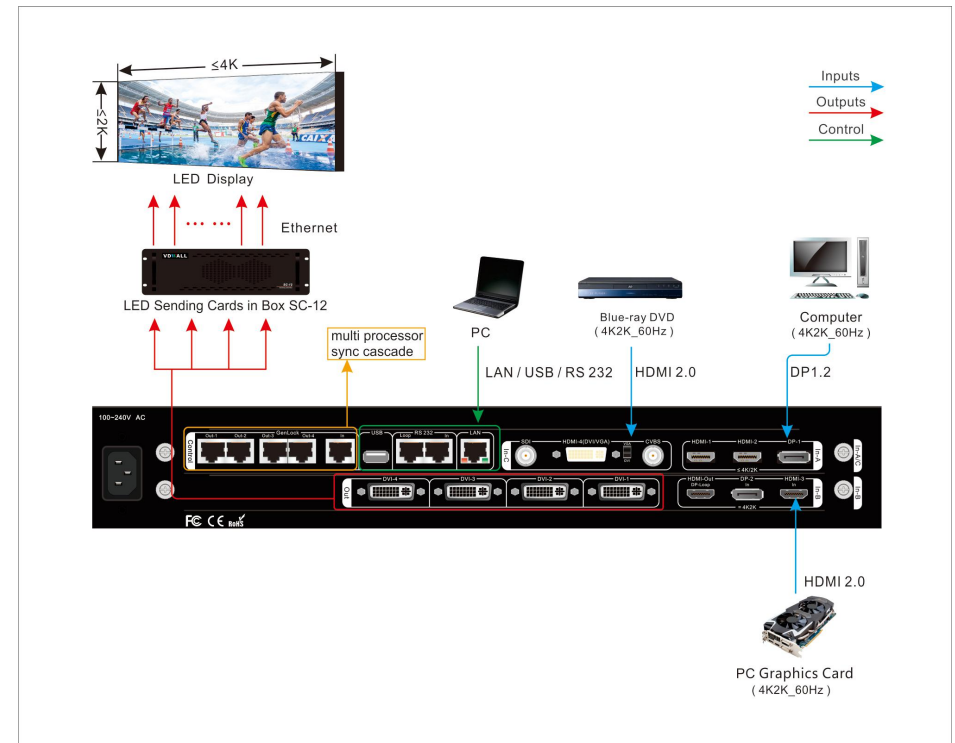

Figure 4-1
- 1.3) Usually, solution diagram as Figure 4-1: